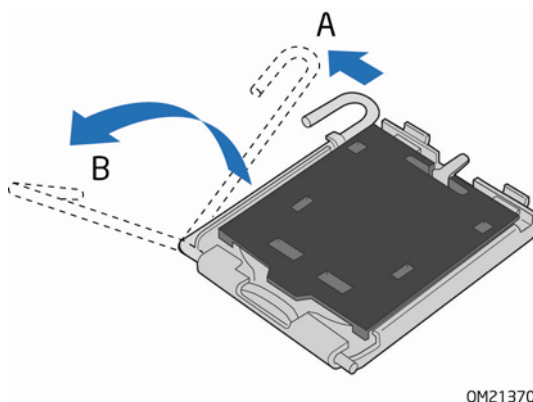

Figure 6. Lift the Socket Lever
2. Open the socket lever by pushing the lever down and away from the socket (Figure 6, A and B).